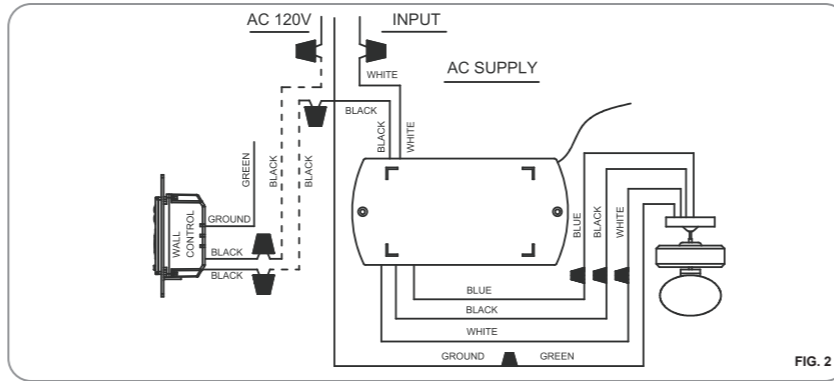

FIG. 2
Connect the BLUE wire from the fan to the BLUE wire marked "For Light" from the receiver. (Fig.2)
- Secure all wire connections with the plastic wire nuts provided. (Fig.2)
If your outlet box does not have a Ground Wire, then connect the hanger ball and Hanger Bracket Ground Wire together. Secure wire connection with the plastic wire nut provided.(Fig.2)
- Step.1 Make wire connections (Fig. 2) and secure with wire nuts supplied.